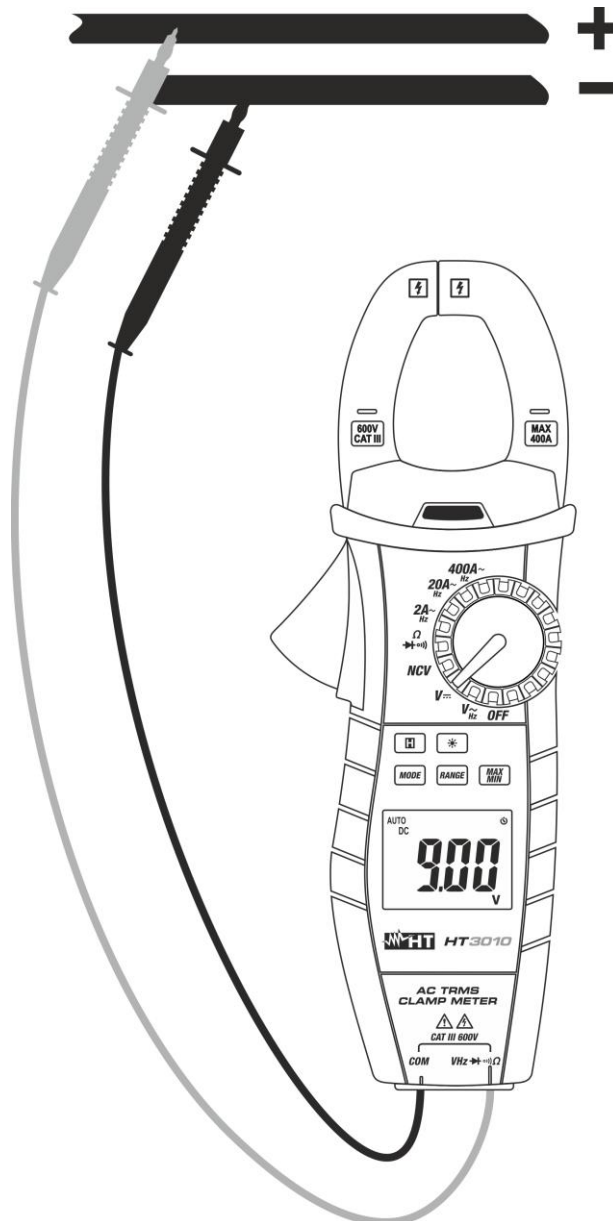

Fig. 3: Use of the instrument for DC Voltage measurement
3. Position the test leads in the desired points of the circuit to be measured (see Fig. 3). The display shows the value of voltage.
5. When symbol "**-**" appears on the instrument's display, it means that voltage has the opposite direction with respect to the connection in Fig. 3